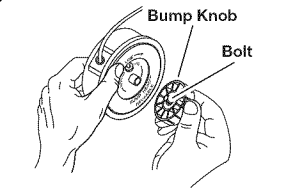

Fig. 14
1. Hold the outer spool with one hand and unscrew the bump knob counterclockwise (Fig. 14). Inspect the bolt inside the bump knob to make sure it moves freely. Replace the bump knob if damaged.